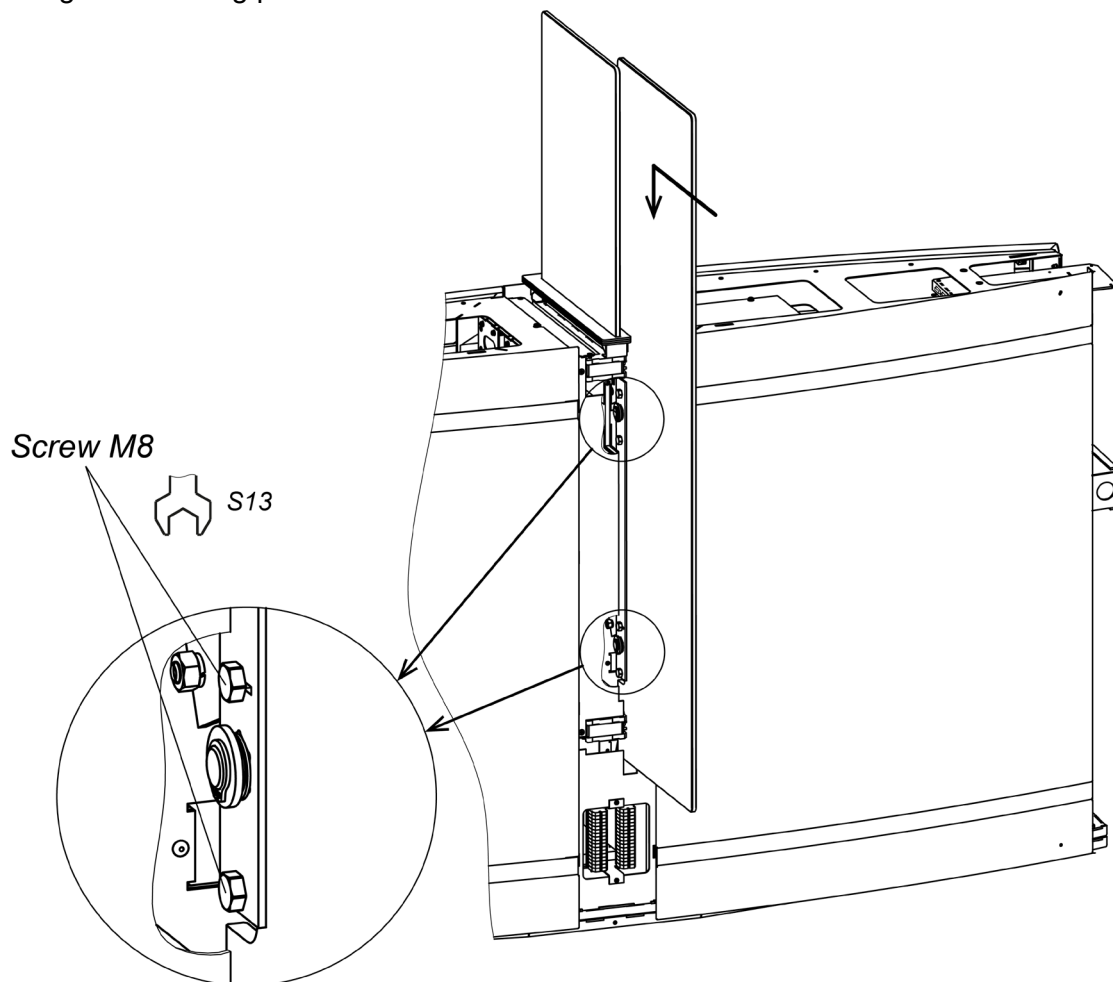

Figure 24. Installation of the sliding panel
- Mount the sliding panels (1) (see sec.8.7.6, Fig. 24).
2. Loosen the four M8 bolts on the top and bottom of the two fastenings of the sliding panel by using S13 open-ended wrench (see Fig. 24).